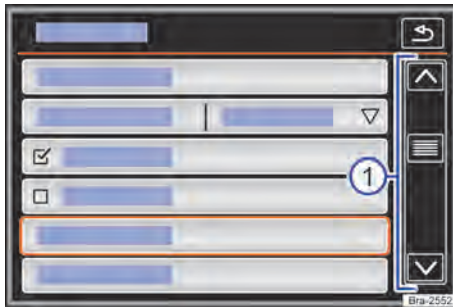

Fig. 118 Schematic representation: list entries, settings menu.
List entries can be accessed by directly touching the screen or with the selector button → Fig. 118 ①.
If the available entries on a list do not fit the display, function buttons or a scrollbar are shown on the right-hand side to scroll through entries → Fig. 118 ①.